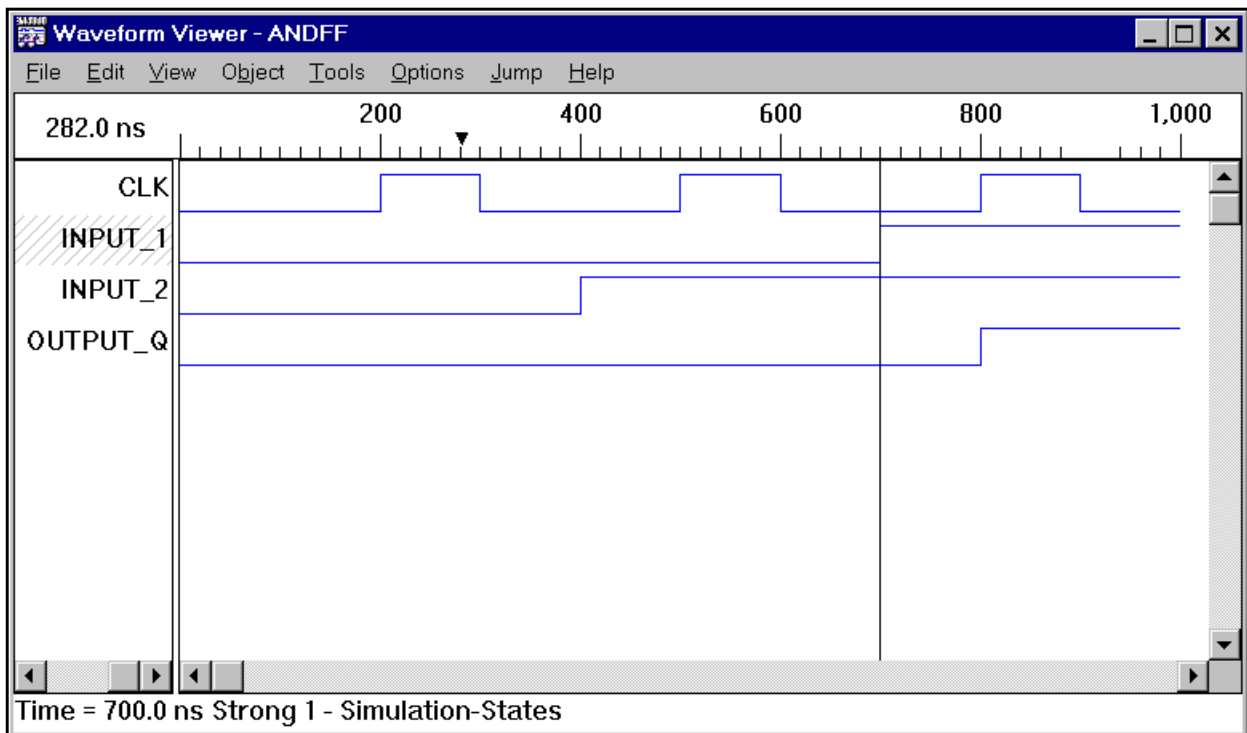

Figure 3-15. Waveform Viewer Window Showing the Signals
6. Select the desired signals in the Nets field, then click the **Show** button to add the them in the Waveform Viewer (Figure 3-15).